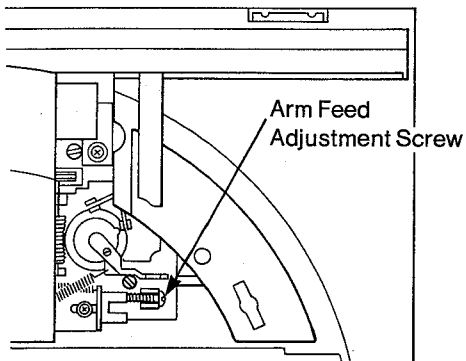

Fig. 6
4. Turn the arm feed adjustment screw with a screwdriver through the hole on the right side of the cabinet, so that the arm rises straight up. (Fig. 6)